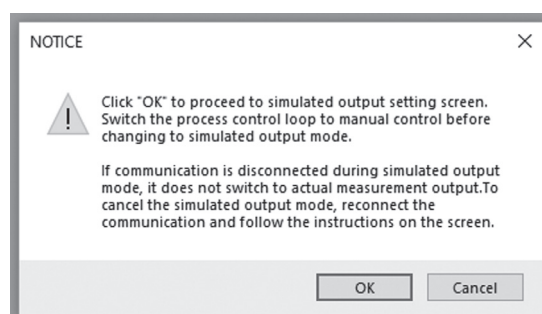

Fig.144
- ① When "Diagnosis/Service (T)" > "Trim Analog" > "Trim Analog 1" in the menu are clicked, a message box (Fig. 144) appears. Then, after confirming that the process control loop has been switched to manual, click the "OK" button.